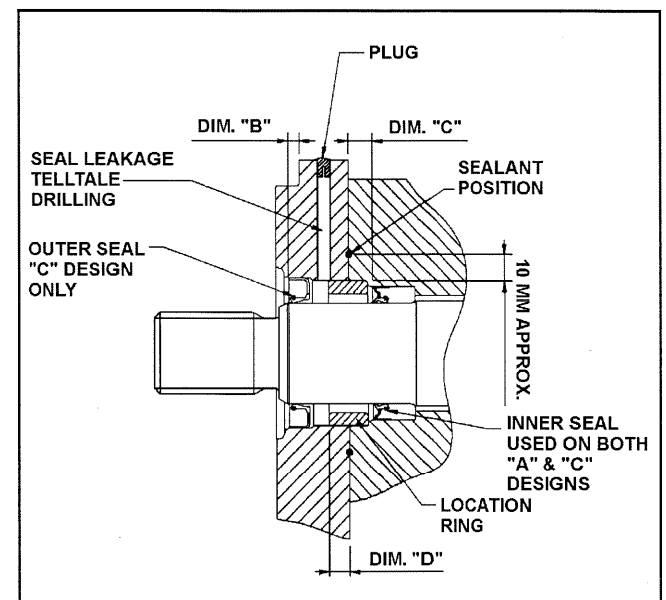

Figure 12: Shaft Seal & Location Ring
See Figure 12 for an illustration of seal types. To lubricate:
3. Press seal(s) into bore(s) to dimensions "B" and "C" as shown in Table 3 and Figure 12.
The location ring is to be inserted to the mounting flange according to dimension "D" as specified in Table 3 and Figure 12.